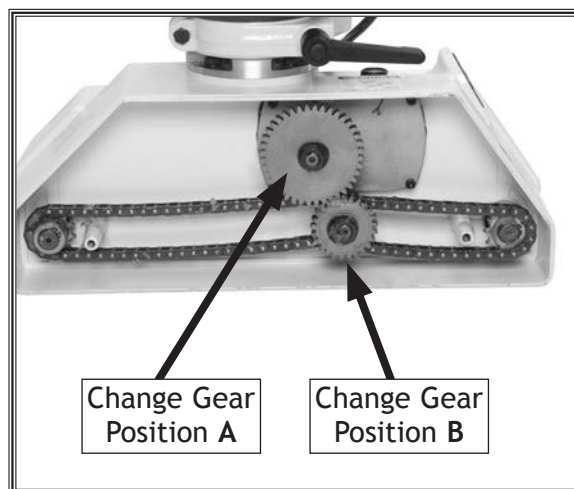
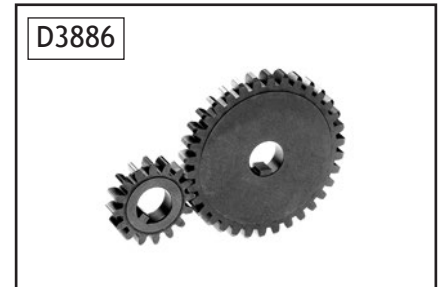

Figure 11. Change gear locations.
Figure 12. Feed direction and speed switch.
Your power feeder has the option to feed a workpiece at 13, 26, 33, and 66 feet per minute. These rates are achieved by changing the combination of change gears, shown in **Figure 11**, and turning the motor switch to high or low range operation, shown in **Figure 12**.
5. Swap the required change gears so the gear hubs face the power feeder (positions A & B, **Figure 11**).